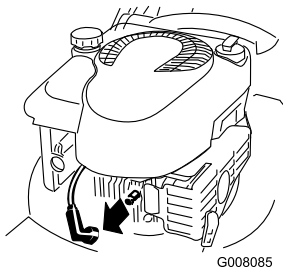

Figure 21
2. Disconnect the spark plug lead from the spark plug (Figure 21) before performing any maintenance procedure.